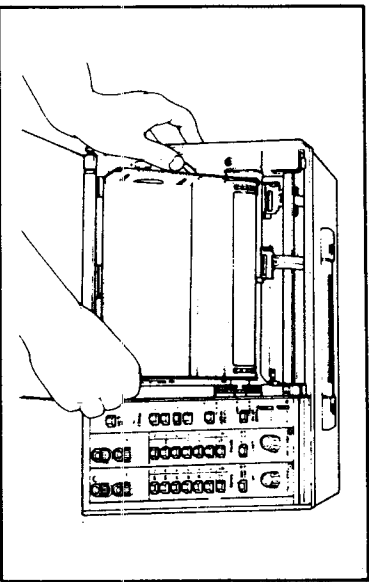
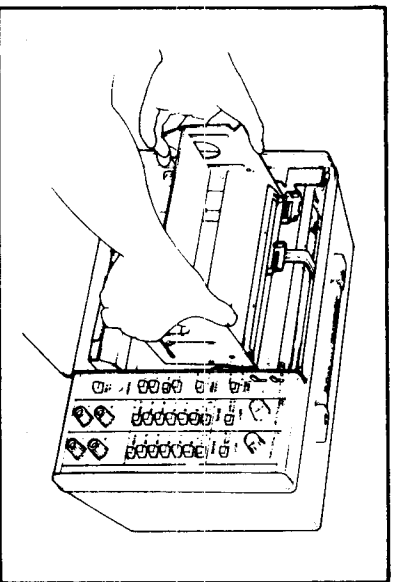

Figure 3-3.
Figure 3-4.
- (2) Press the chart compartment lock release lever outward (left) as shown in Figure 3.3. Lift the chart compartment upward, and remove it to the horizontal position as shown in Figure 3-4.